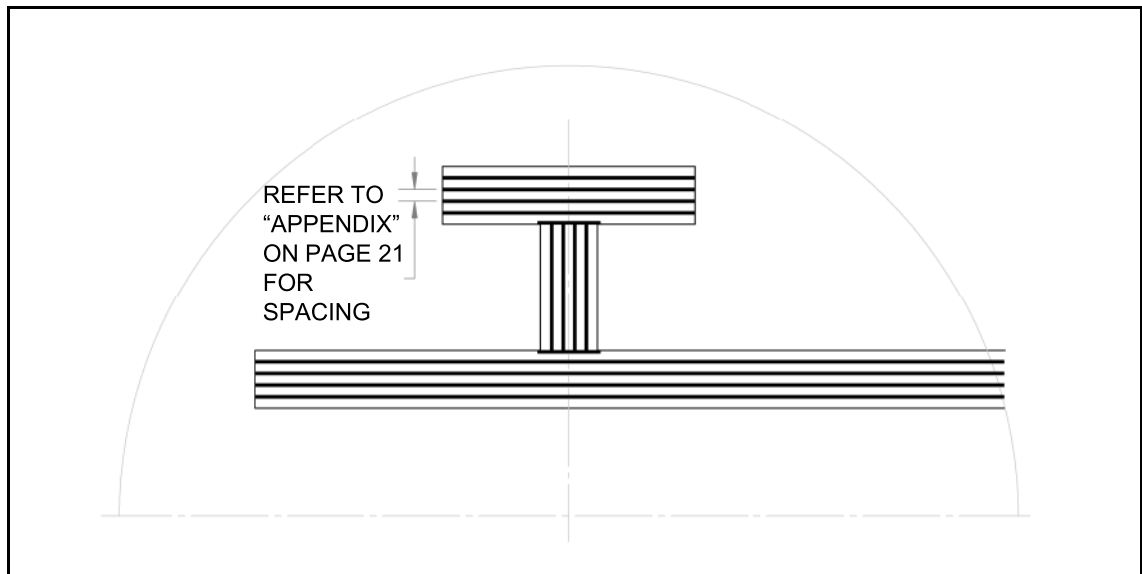

Figure 2.9
1. Place the truss type floor support on top of the layout lines. These supports will need to be cut to size or welded to another floor support to fit into the tunnel length. Refer to Figure 2.9 for the typical truss type support layout pattern.